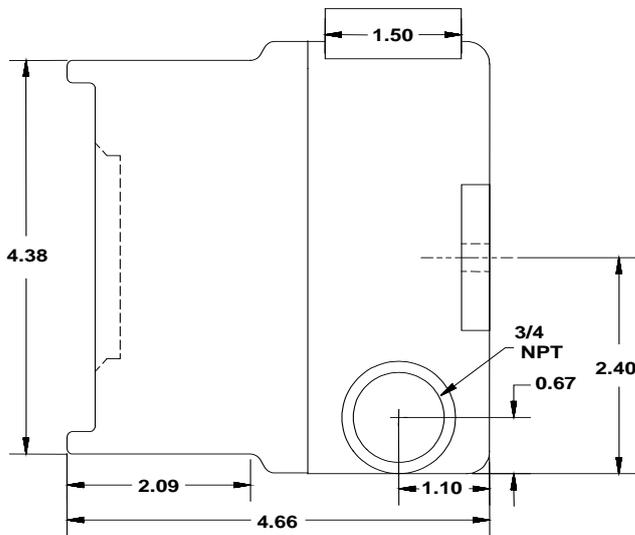

Figure 6: Model SS4-AS/-AS2 Detector Enclosure (Side View)
- a. Insert the cables into the metal enclosure base through one of the conduit openings. Refer to Figure 6.
- a. Insert relay cables into the Detector enclosure base through one of the conduit openings. Refer to Figure 6.